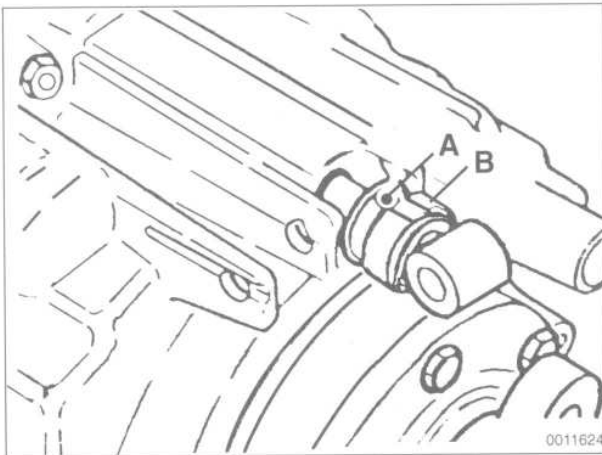

Fig. 3. Selector rod coupling. Slide locking sleeve (B) and push pin (A) through to remove coupling.
3. Place transmission in 5th gear. Disconnect selector rod coupling from selector shaft by releasing spring sleeve and pushing out pin. See Fig. 3.